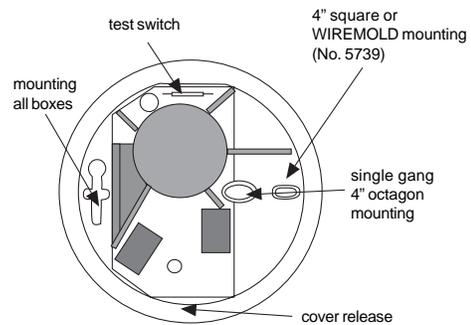

Figure 4. Detector Mounting
3. Open the cover and mount the detector, using the mounting holes provided. See Figure 4.